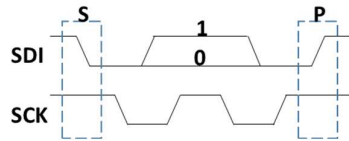

Figure 9. I2C bus protocol definitions
Figure 9 shows the start (S) and stop (P) bits and a data bit. Data must be held stable at the SDI pin
Each serial bus operation, like write, starts with the start (S) bit (see figure 9). After start (S) the MAS6513 device write address (AW) is written to the